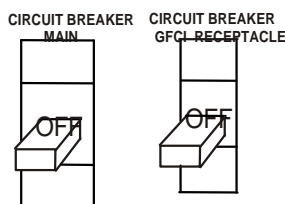

Figure 13. Main and GFCI Circuit Breakers
1. Be sure to disconnect the electrical load and switch the *main* and *G.F.C.I.* circuit breakers (Figure 13) to the "OFF" position prior to starting the engine.